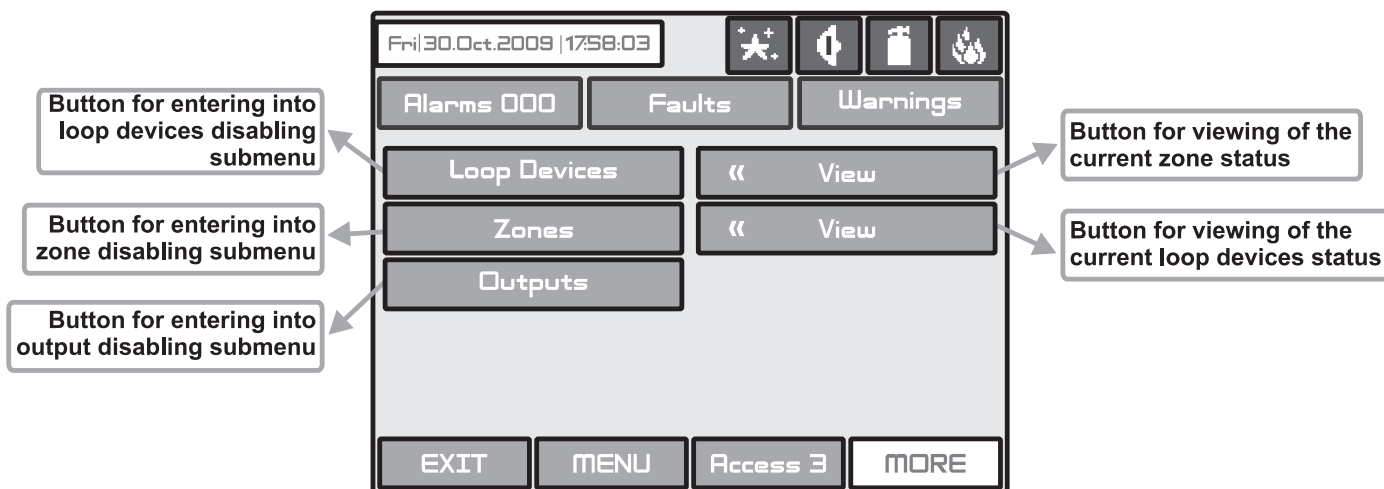
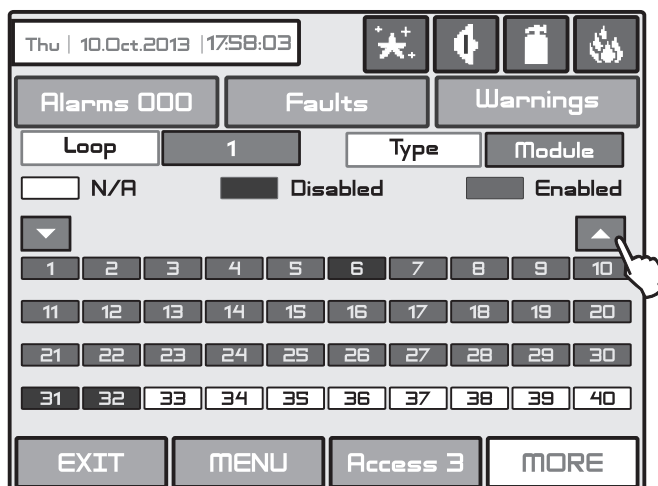
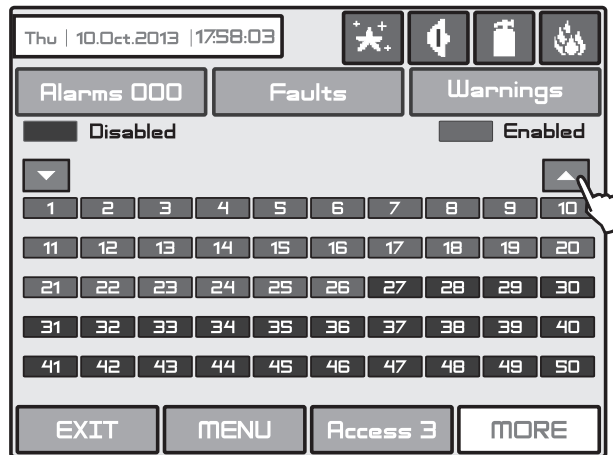
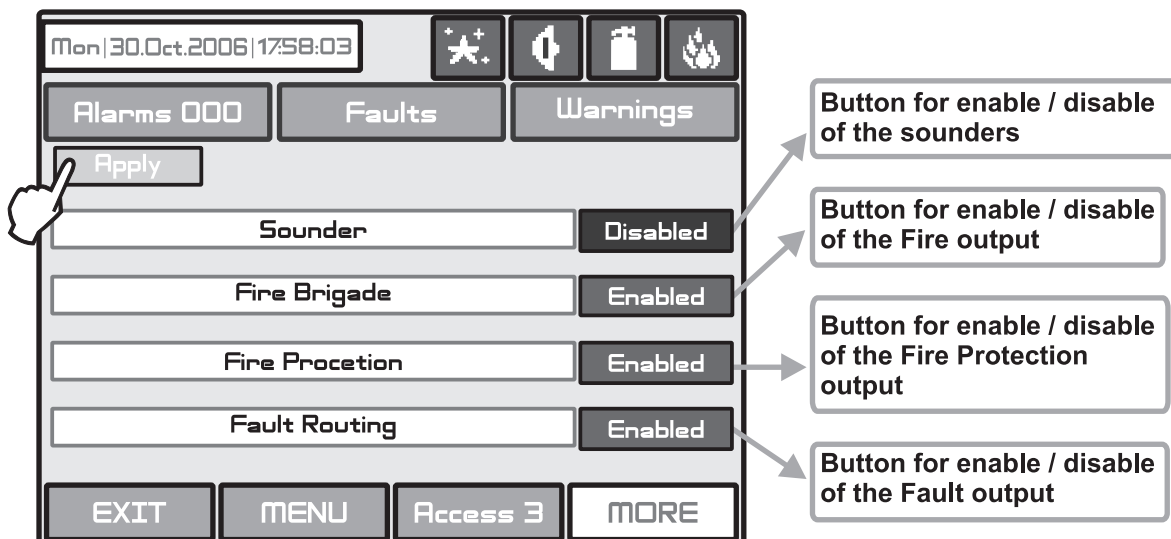

Fig. Screen 35.
Fig. Screen 36.
Fig. Screen 37.
Fig. Screen 38.
The user/installer can enable or disable the loop devices, zones and the outputs of the fire panel. To introduce enabling or disabling a function you can directly choose the respective button and make corrections, or first by pressing “View” button to look at the current status of the system and after that, if it is necessary, to enter new data – Fig. Screen 35.
The user/installer could first look at the current status of the loop devices by choosing “View” button situated next to the “Loop devices” button - see Fig. Screen 35. The current status of the loop devices programmed earlier in the system are displayed on the screen (see part Programming, item 3.3.2 Loop Devices) - Fig. Screen 36.
The user/installer could first look at the current status of the loop devices by choosing “View” button situated next to the “Zones” button - see Fig. Screen 35. The current status of the zones in the system are displayed on the screen (see part Programming, item 3.3 Zones) - Fig. Screen 37. In the case of a disabled zone, the panel generates a “Zone Disabled” error message and the “Disable” and “General Fault” LEDs on the control panel are activated.
Note: From the disabling menu you can directly enter in the loop devices configuration menu (Fig. Screen 8) / zone configuration menu (Fig. Screen 13) as choose “Loop Devices” / “Zones” button (Fig. Screen 35).
From the menu for disabling introduction - Fig. Screen 35, the user/installer can disable or enable the monitored outputs of the MAGPRO96 fire panel - **Sounder, Fire Brigade, Fire Protection and Fire Routing** - Fig. Screen 38. Use the **APPLY** button to confirm your choice.